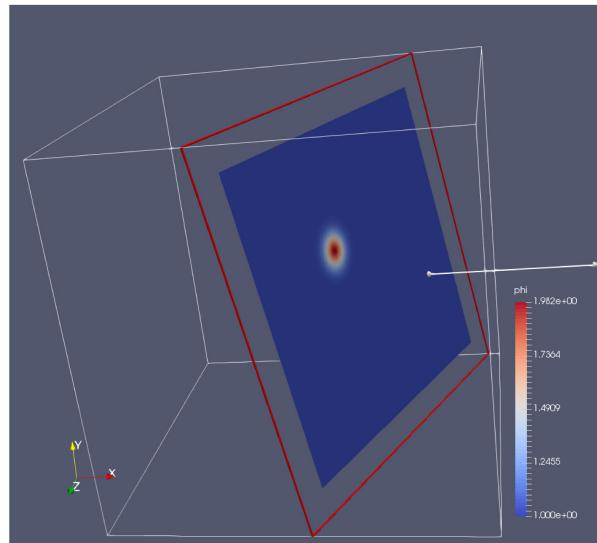

Fig. 14.1: : Plotfile image generated with ParaView
7. You can play with the Plane Parameters to define a plane of data to view, as shown in Fig. 14.1.